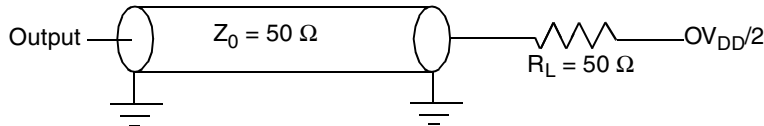

Figure 30. AC Test Load for the JTAG Interface
- All outputs are measured from the midpoint voltage of the falling/rising edge of t_{TCLK} to the midpoint of the signal in question. The output timings are measured at the pins. All output timings assume a purely resistive 50-Ω load (see Figure 30). Time-of-flight delays must be added for trace lengths, vias, and connectors in the system.
- The symbols used for timing specifications herein follow the pattern of $t_{(first\ two\ letters\ of\ functional\ block)(signal)(state)\ (reference)(state)}$ for inputs and $t_{(first\ two\ letters\ of\ functional\ block)(reference)(state)(signal)(state)}$ for outputs. For example, $t_{JTDV KH}$ symbolizes JTAG device timing (JT) with respect to the time data input signals (D) reaching the valid state (V) relative to the t_{JTG} clock reference (K) going to the high (H) state or setup time. Also, $t_{JTDX KH}$ symbolizes JTAG timing (JT) with respect to the time data input signals (D) went invalid (X) relative to the t_{JTG} clock reference (K) going to the high (H) state. Note that, in general, the clock reference symbol representation is based on three letters representing the clock of a particular functional. For rise and fall times, the latter convention is used with the appropriate letter: R (rise) or F (fall).
Figure 30 provides the AC test load for TDO and the boundary-scan outputs.
Figure 30 provides the AC test load for the I²C.